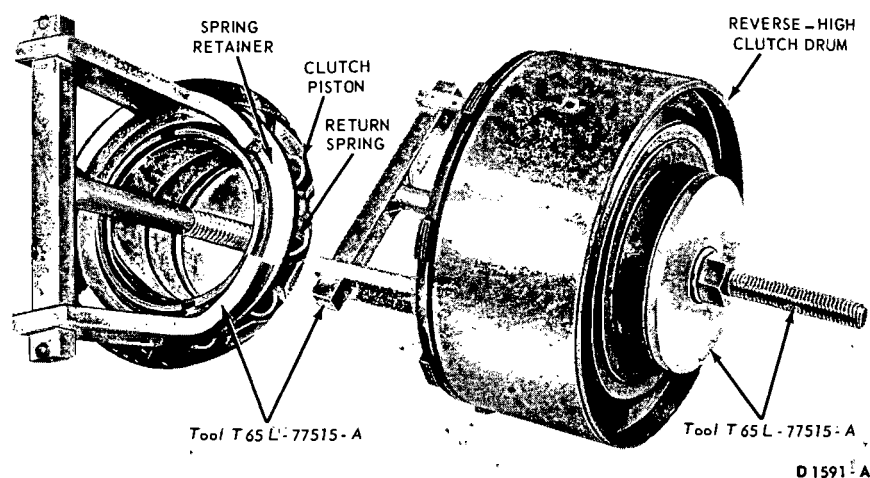

FIG. 54—Removing or Installing Snap Ring
3. Install Tool T65L-77515-A (Fig. 54) on the reverse-high clutch drum. Make sure that the legs clear the snap ring enough to permit expanding it enough for removing it. Remove the snap ring and remove the tool.
4. Install Tool T65L-77515-A (Fig. 54) and compress the springs. Make certain that the spring retainer is centered while compressing the springs. Install the snap ring. Before releasing the pressure on the tool, make certain that the snap ring is positioned inside of the four snap ring guides on the spring retainer.